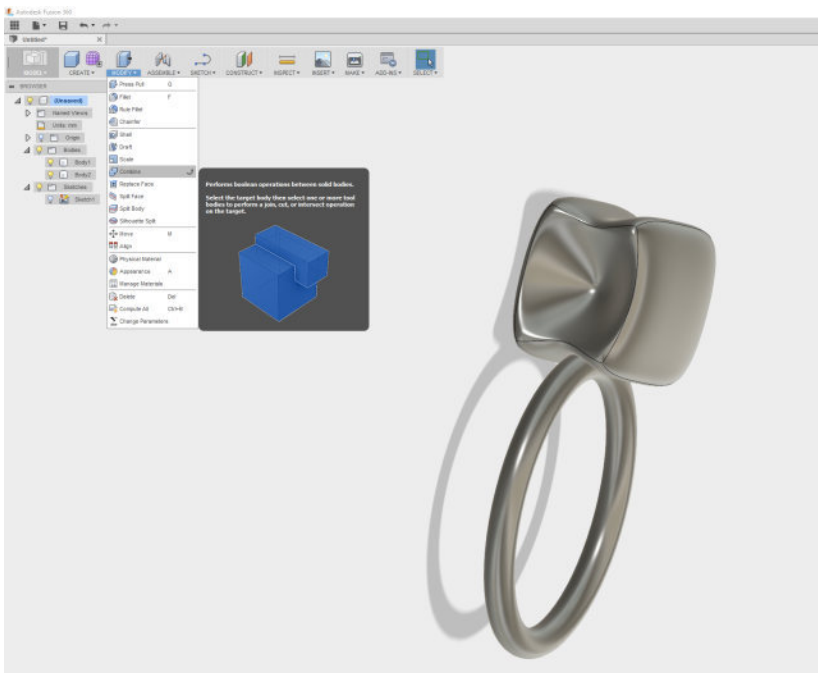

Figure 11-19. Initiating the Modify → Combine command to merge the shapes
25. Click the arrow under Modify and then select Combine as shown in Figure 11-19.